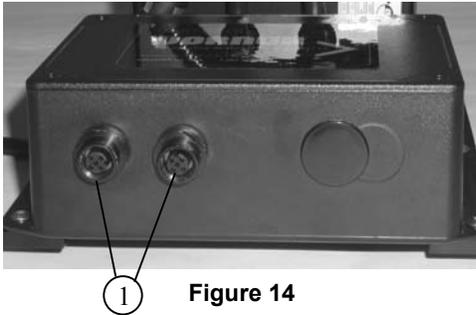

Figure 14
1. Connect push button to unused accessory port (Figure 14, items 1).